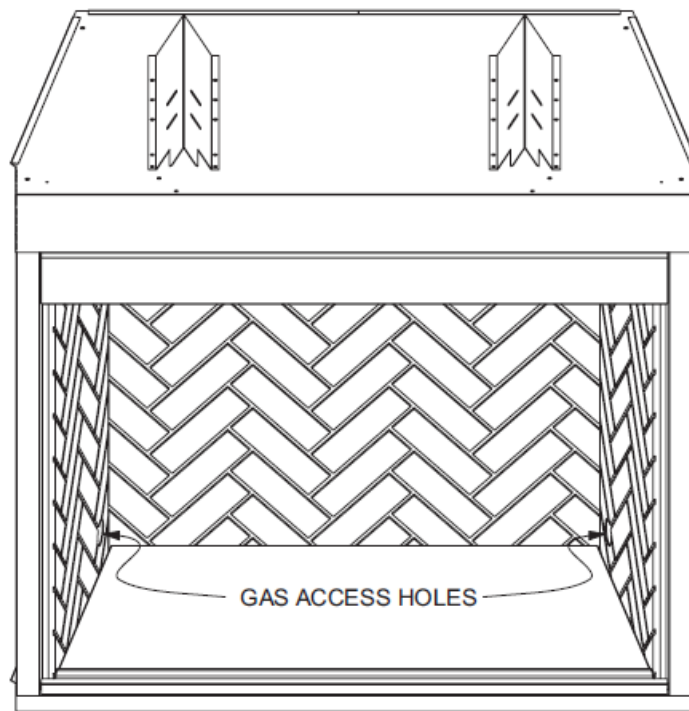
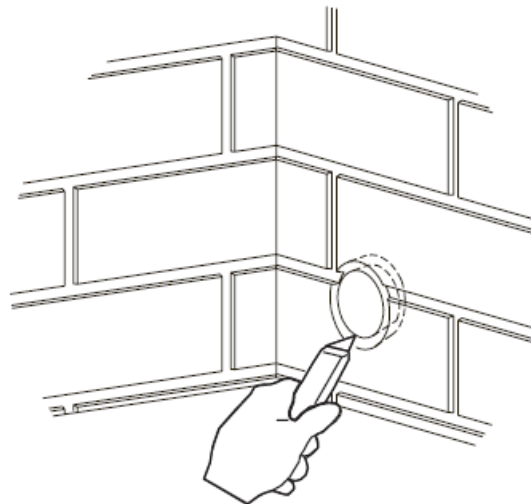

Figure 10
Figure 11
- Gas access holes are provided on both sides of the firebox. See Figure 10. Carefully remove the indented knockout in the ceramic brick panel using a drill or utility knife. See Figure 11.